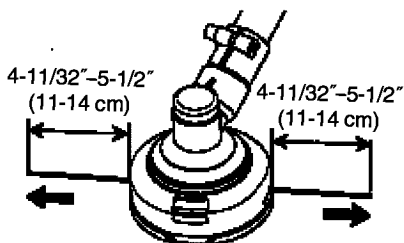

Fig. 42
- (7) The initial cutting line length should be approx. 4-11/32"~5-1/2" (11-14 cm) and should be equal on both sides. (Fig. 42)